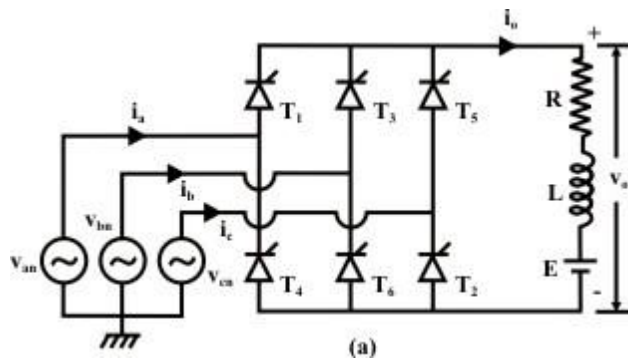

Figure 2: Full converter
2. A three phase full converter as shown in Figure 2 is also operated from a three phase Y connected 208 V 60 Hz supply and the load resistance is $R=10\Omega$ and $L=10\text{mH}$. If it is required to obtain an average output voltage of 50% of the maximum possible output voltage, calculate